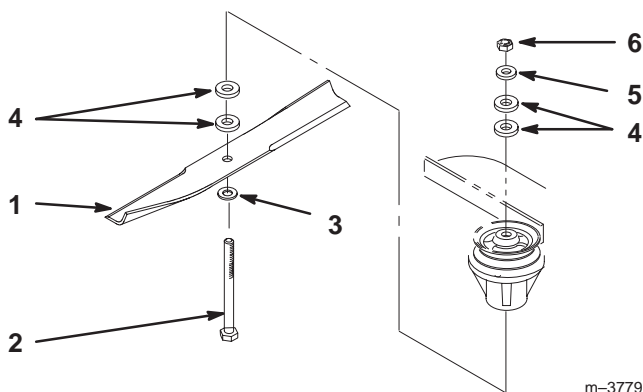

Figure 17
3. Hold the blade bolt and remove the nut (Fig. 17).
4. Slide the bolt down through the spindle, and change the spacers as needed (Fig. 17).
5. Insert a bolt, add extra spacer(s), and secure them with a thin washer and a nut (Fig. 17).